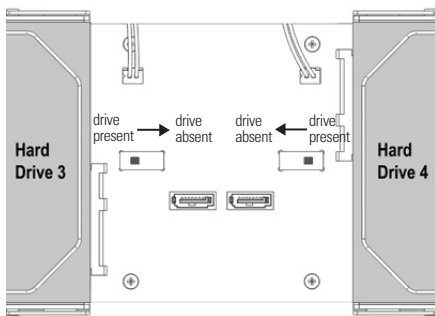

Figure 3: Hard Drive Enable Switches
5. To enable the drive activity LEDs and fan failure support change the corresponding drive switch to the “drive present” position. See figure 3.